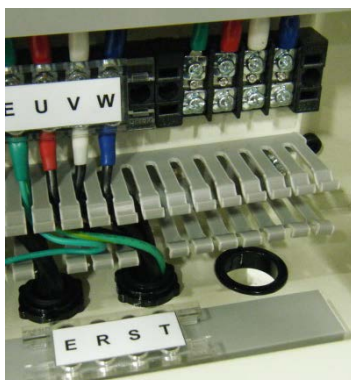

figure 4
- Remove the (E, R, S, T) plate which covers the terminals and also remove the wire channel cover. See fig. 4.